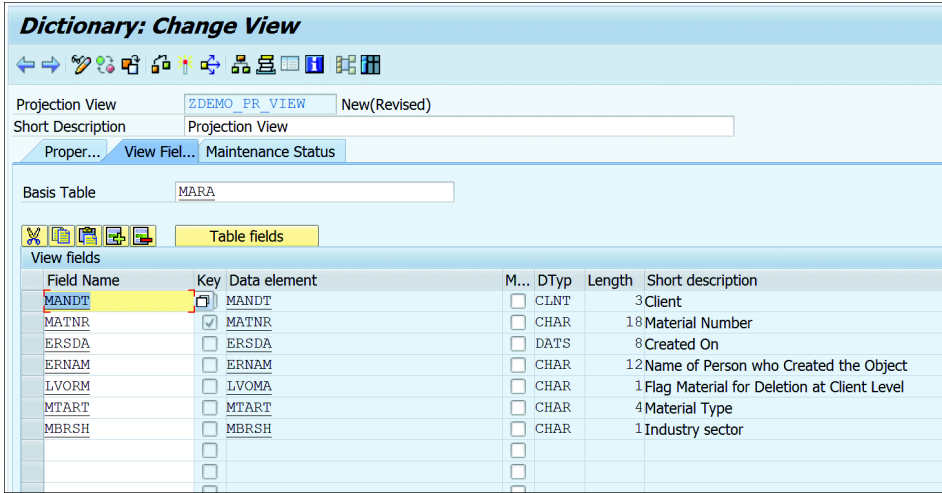

Figure 10.40 Projection View
3. On the DICTIONARY: CHANGE VIEW screen (see Figure 10.40), maintain a short description for the view. Enter the name of the base table in the BASE TABLE field. Use the TABLE FIELDS button to select the fields for the view.